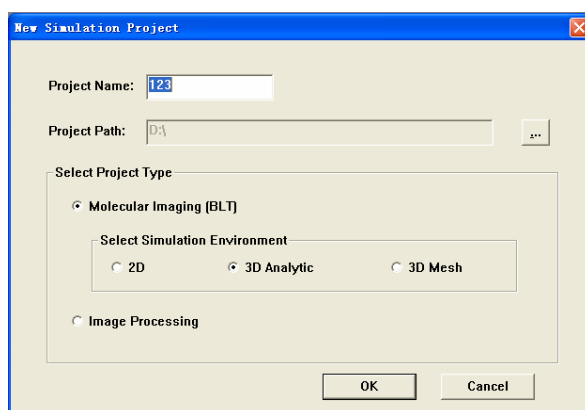

Figure 2. Build a New Project
*Simulation Project* window appears (Figure 2).
As shown in figure 2, we can select simulate project pattern in item of project, according to different pattern, MOSE can appear different interface. At present, MOSE include two kinds of project: BLT and image process.